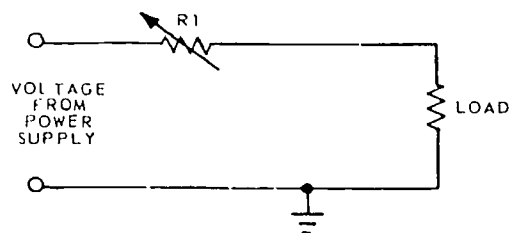

Figure 6-36. Equivalent EVR circuit.
Electronic voltage regulator (EVR). An electronic voltage regulator is a circuit designed to maintain the output voltage nearly constant regardless of input voltage or load changes. An electronic voltage regulator can be likened to the series resistive circuit shown in figure 6-36. The load resistance is connected in series with variable resistor R1 across the output terminals of the power supply. The voltage from the power supply has ripple and is not regulated. Further, the resistance of the load may change. Due to input voltage and load resistance changes, the voltage across the load cannot remain constant.
- j. With this device, though the power supply voltage has ripple and is not regulated, if the size of R1 is increased as the input voltage increases, the voltage across the load can be made to stay constant (see fig. 6-36).